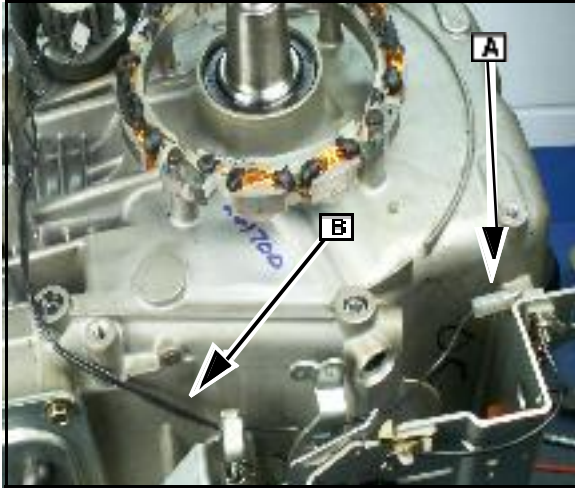

Fig. 42
6. Install the ignition coil harness to the ground terminal (A) and route the harness (B) Fig. 42) as shown.